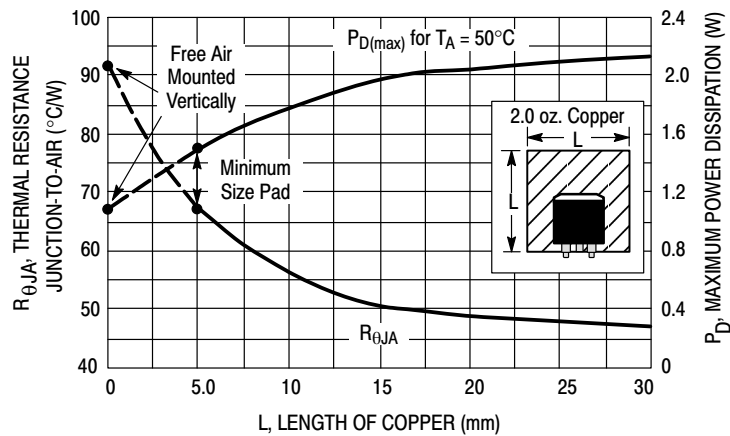

Figure 29. DPAK Thermal Resistance and Maximum Power Dissipation versus PCB Copper Length
7. The Junction-to-Ambient Thermal Resistance is determined by PCB copper area per Figure 29.